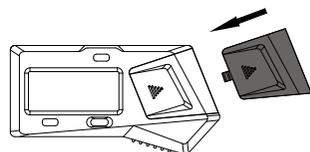

fig.3
---Close the battery cover(fig.3)